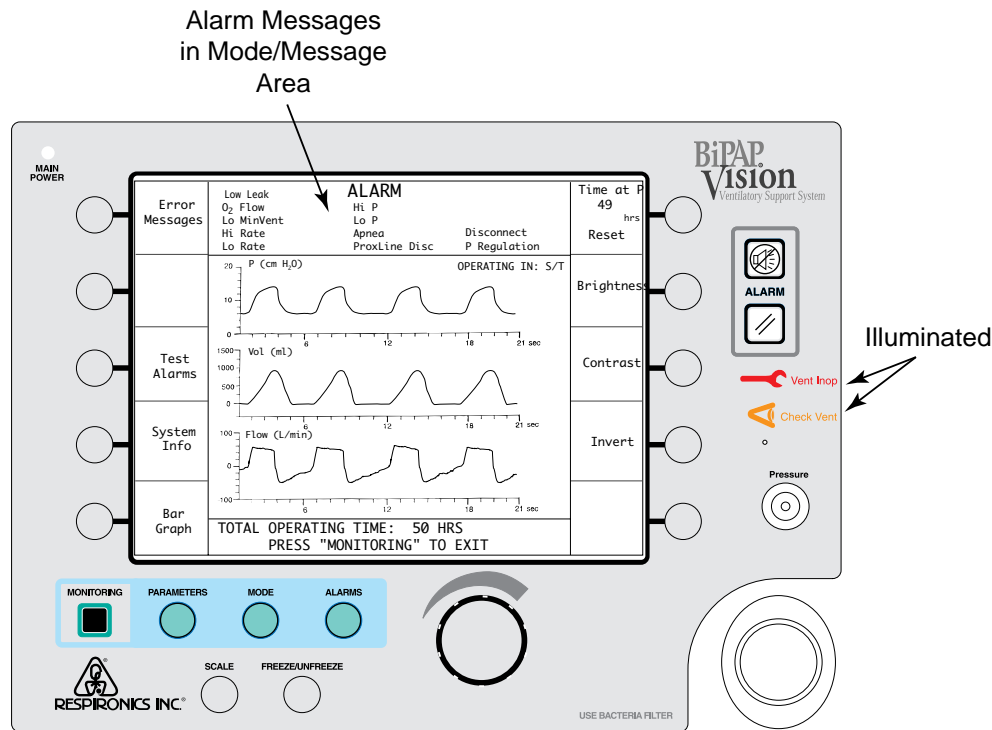

Figure 7-1. The Alarm Test Screen.
STEP 5 Press the **Test Alarms** soft key to verify that both the audible tone and the alarm messages activate for all available alarms. The Ventilator Inoperative and Check Ventilator icons should illuminate during the test. The Vision front panel should look like Figure 7-1